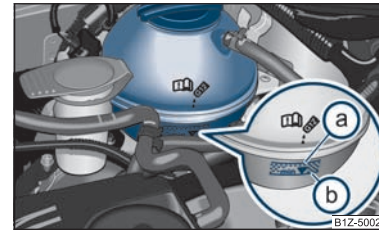

Fig. 124 Engine compartment: Coolant expansion bottle
- Check the level of coolant in the coolant expansion bottle ⇒ page 143, fig. 124. The coolant level when the engine is cold must lie between the **(b)** (MIN) and **(a)** (MAX) markings. The level may also rise slightly above the **(a)** (MAX) marking when the engine is warm.
- Place a cloth over the cap of the coolant expansion reservoir ⇒ page 143, fig. 124 and unscrew the cap **carefully** by turning it to the left ⇒